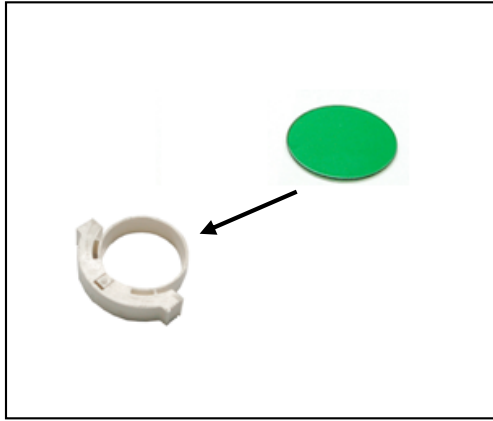

Fig 10
3.1.8 Using color filters (fig 10)